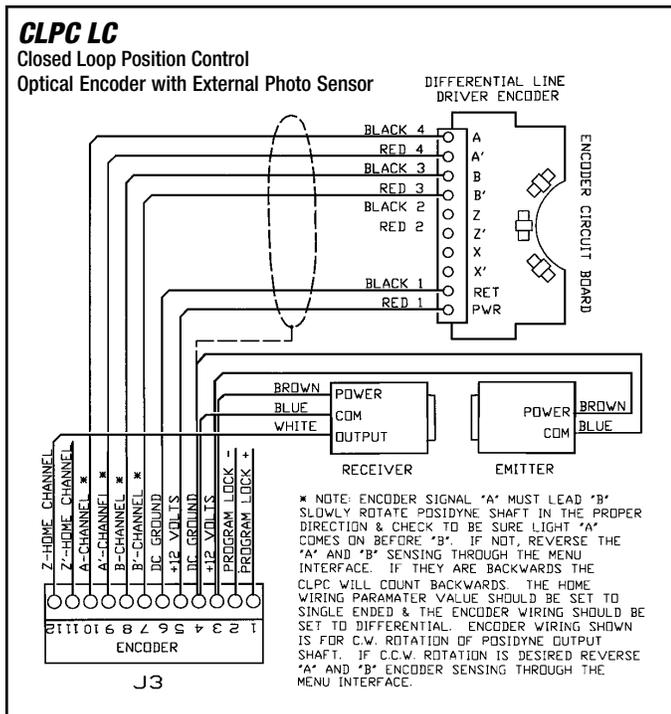

Figure 3.14 - Wiring Diagram - Terminal Block #J3 (With External Photo Sensor)
C. CLPC LC Control to Optical Encoder with External Photo Sensor (See Figure 3.14)